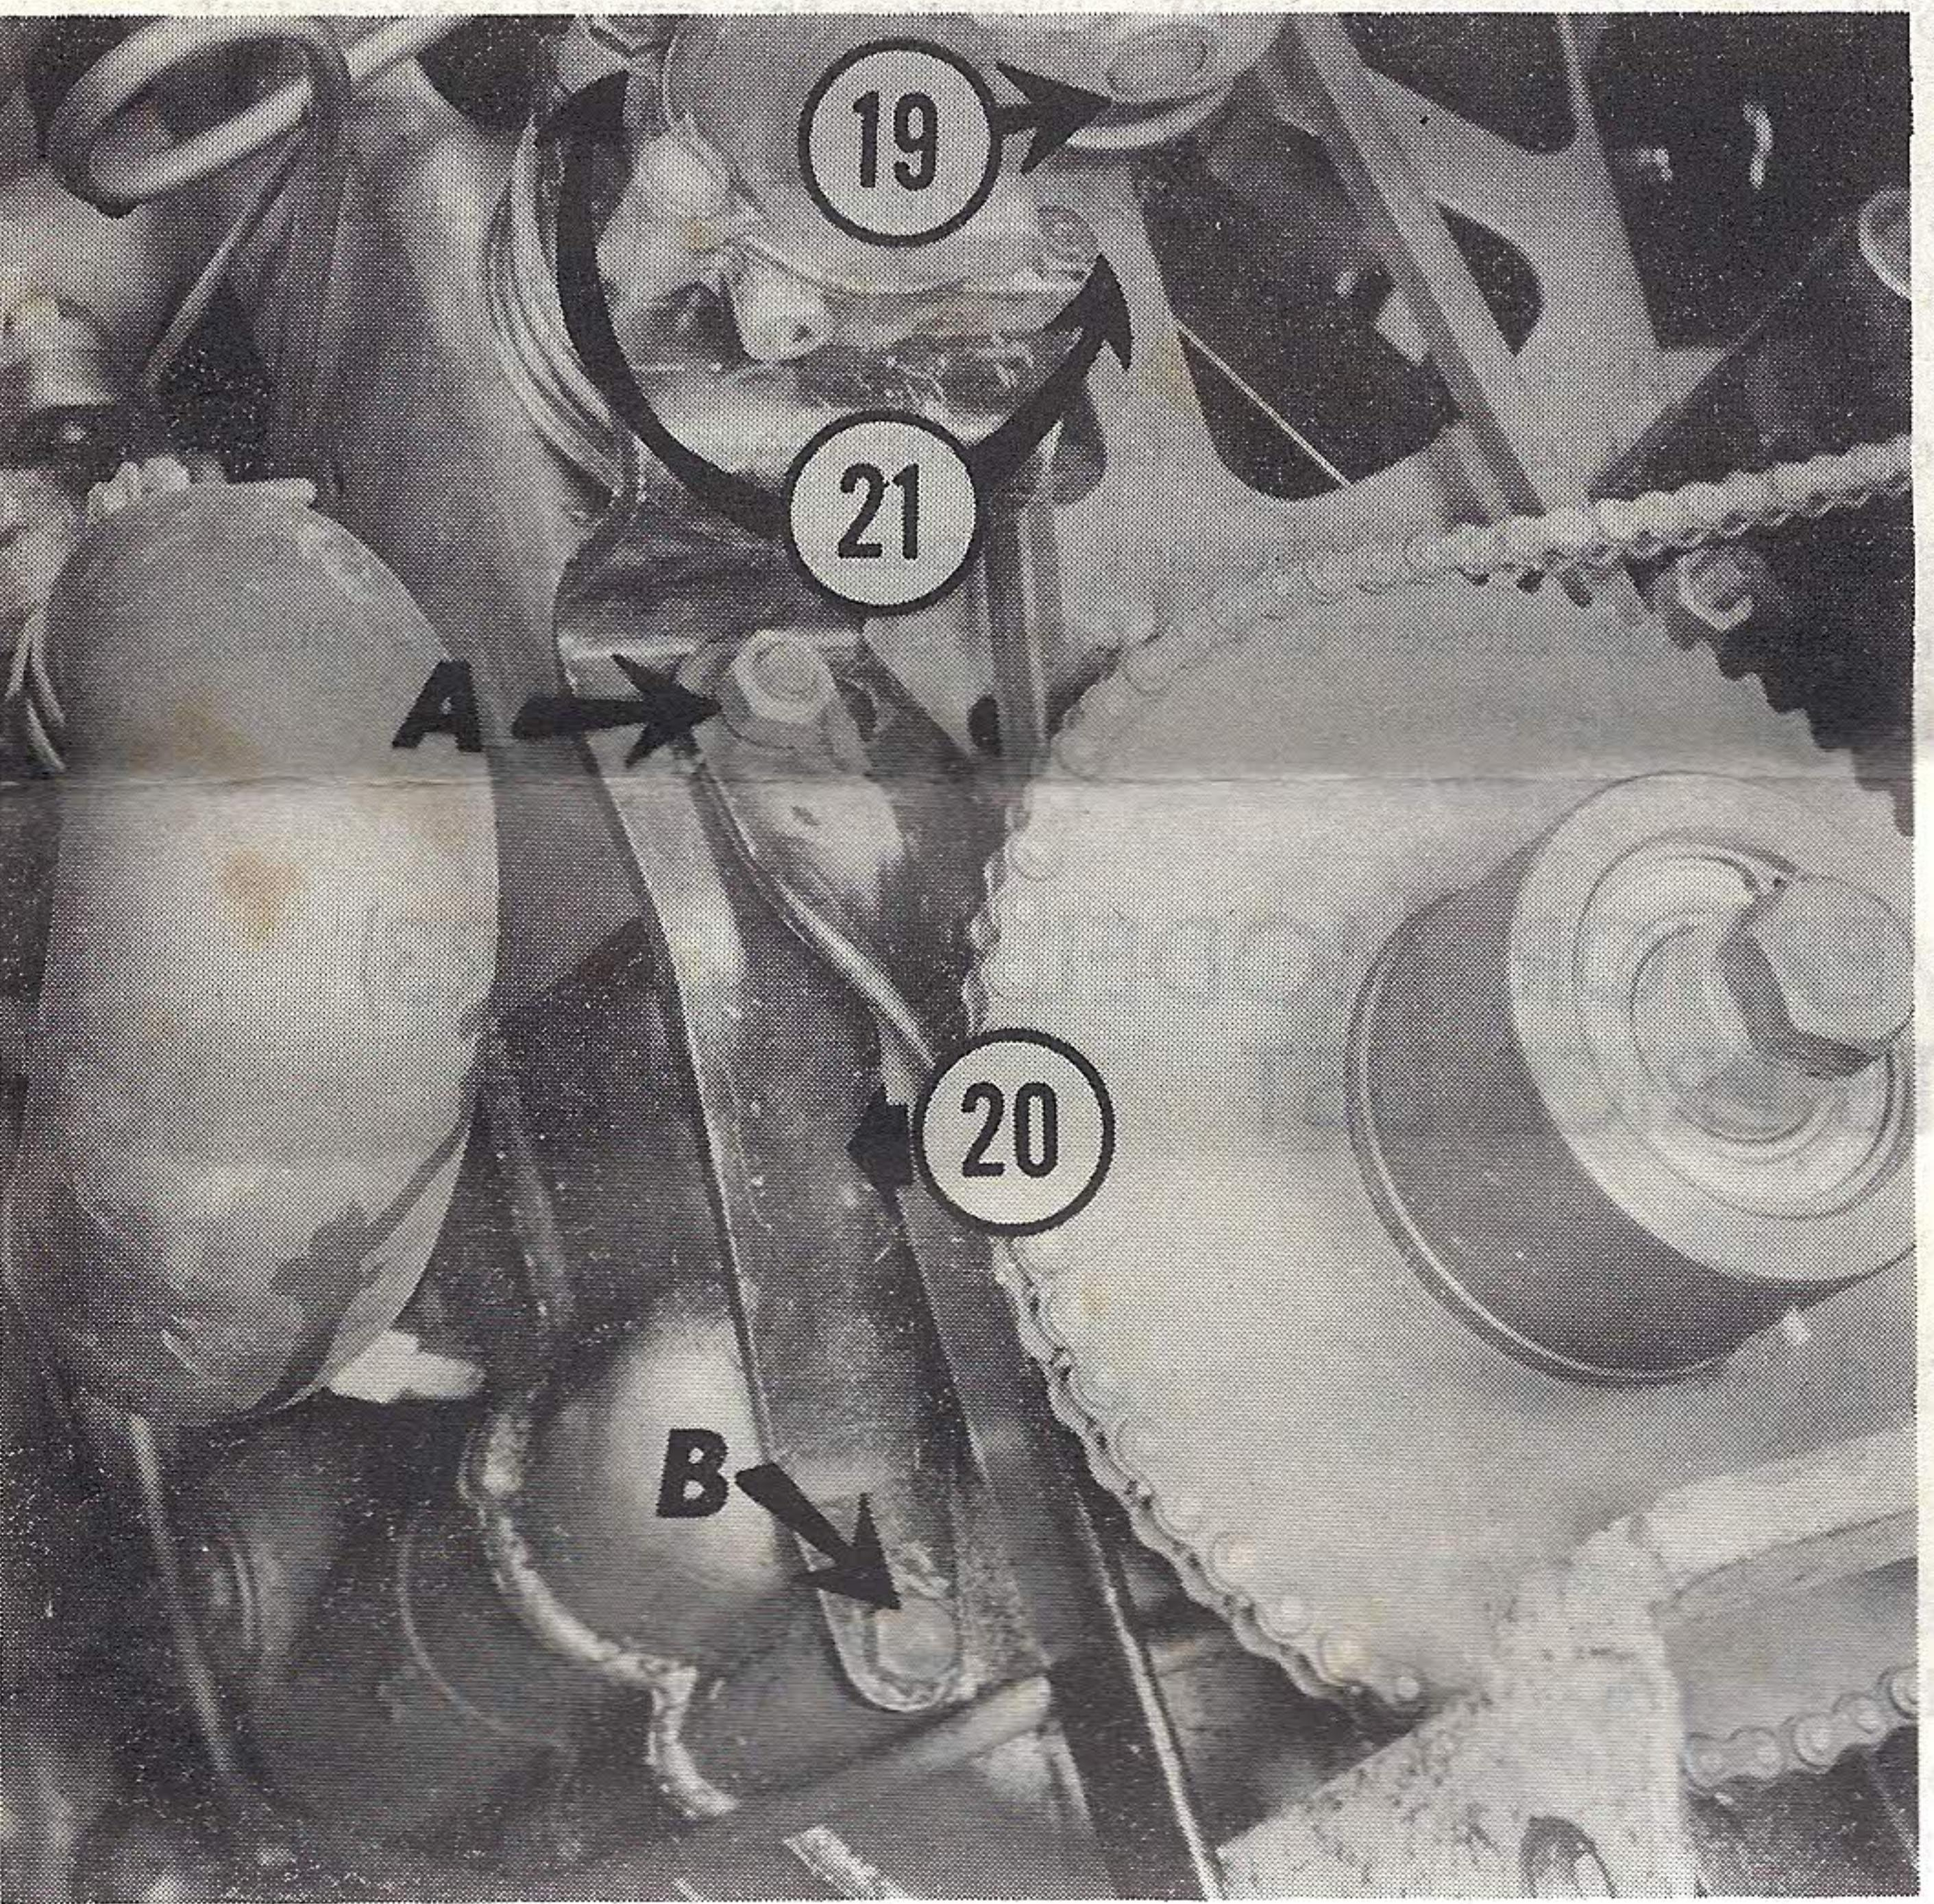

Figure 1
3. Remove Capscrew (B in Figure 1) from Crankcase, and Nut and Lockwasher (A in Figure 1) from Fan Housing.
4. Install Governor Bracket and Governor, replace Crankcase Capscrew (B in Figure 1). When correctly installed, Governor Lever lies horizontally at top of Governor.
6. Move Bracket to make Governor Pulley bear firmly on Fan Belt. Avoid excessive Belt pressure. Secure Bracket with Nut, Lockwasher (A in Figure 1).
- Move Bracket to make Governor Pulley bear firmly on Fan Belt. Avoid excessive Belt pressure. Secure Bracket with Nut, Lockwasher (A in Figure 1).